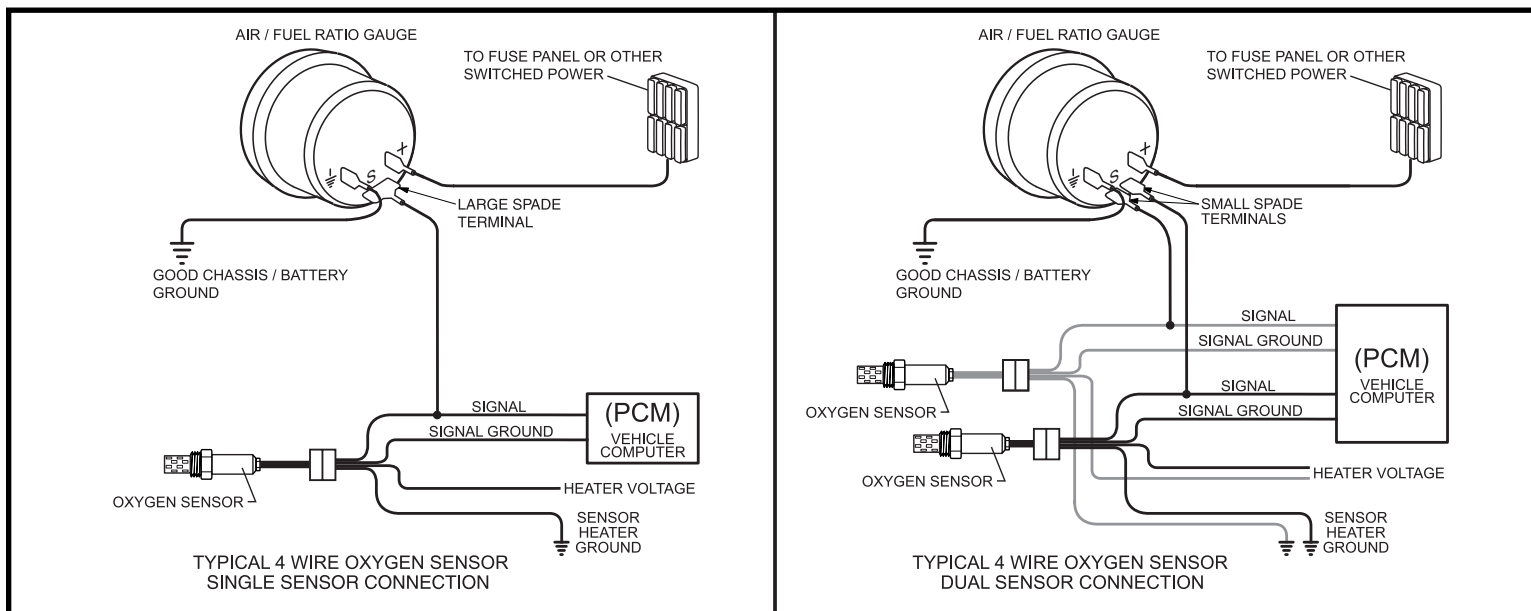

Figure 3. Air/Fuel Ratio Gauge Connections
Refer to Figure 3 (on back page) and make gauge connections as follows.
6. Connect the signal wires (see figure 3) to the Air/Fuel Ratio Gauge and the vehicle's oxygen sensor(s) SIGNAL circuit(s) as follows:
■ If your vehicle is equipped with two pre-catalytic converter Oxygen sensors, crimp or solder two wires to the two small female spade terminals (included in gauge kit), and connect the terminals to the two small male spade signal posts on back of the gauge. Splice one of the loose ends of the gauge signal wires to the signal circuit of the oxygen sensor on Bank 1 of the engine, splice the other signal wire to the oxygen sensor signal circuit on Bank 2 of the engine. This allows the LEDs on the right side of the gauge to display the air/fuel ratio for Bank 1 oxygen sensor and the LEDs on the Left side of the gauge to display the Air/Fuel Ratio for Bank 2 oxygen sensor (see figure 3).